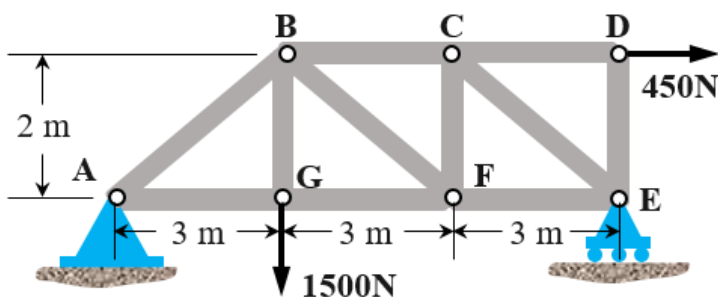

Figure 3
3. Determine the force in members BC, BF and GF of the truss shown in figure 3. Indicate whether the members are in tension or compression. (15')